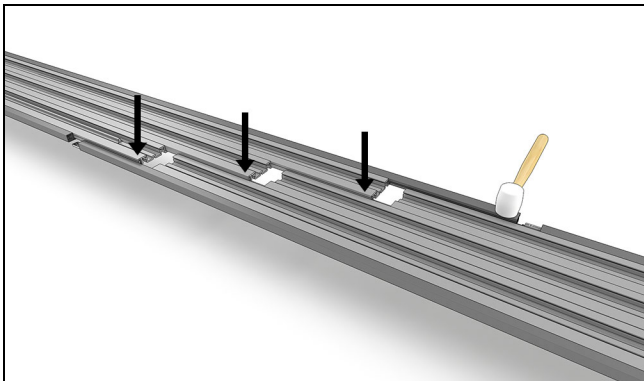

Figure 18
3. Press the splice sections together and seat with a rubber mallet. See Figure 18.